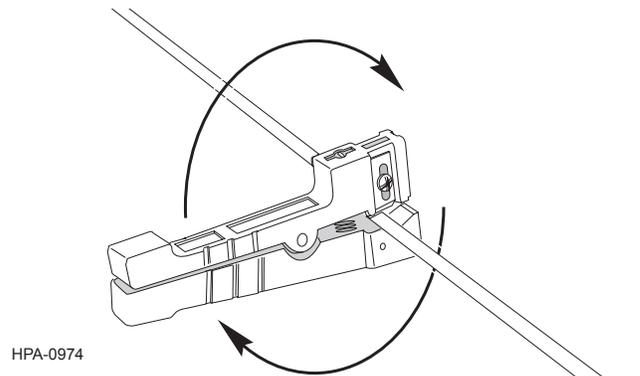

Figure 11
- Use your other hand to rotate the tool around the tube two to three complete turns to score it (Figure 11). Remove the tool from the central tube.